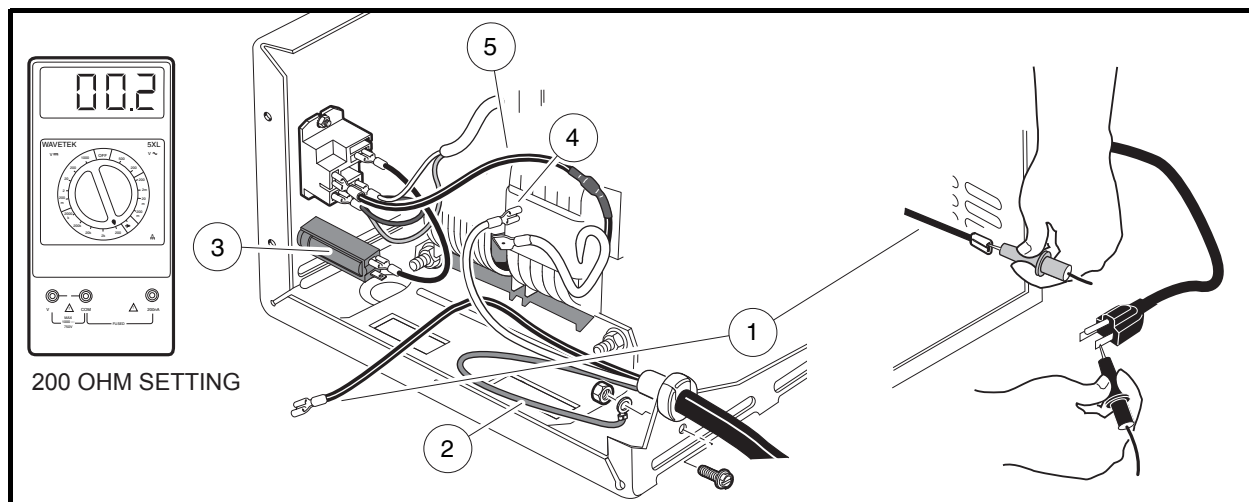

Figure 5-17 AC Cord and Plug Continuity Test
3. Disconnect the green wire (2) from charger case and position it so it does not touch any metal part of the charger (**Figure 5-17, Page 5-20**).
4. Disconnect the black wire (1) of AC cord from charger AC circuit breaker (3).
5. Carefully cut the heatshrink that insulates the AC cord white wire (4) where it connects to the tan primary coil wire.
6. Disconnect the AC cord white wire (4) from the primary coil tan wire.
7. Using a multimeter set for 200 ohms, place the red (+) probe on the terminal at the end of the black wire (1). Test for continuity on each of the flat blades and then on the round pin of the AC plug. The tester should indicate continuity on one flat blade only. If any other reading is obtained, the AC cord and plug must be replaced.
8. Place the red (+) probe on the end of the green wire (2) and with the black probe check for continuity on both flat blades and on the round pin of the AC plug (**Figure 5-17, Page 5-20**). The tester should indicate continuity on only the round pin. If any other reading is obtained, the AC cord and plug must be replaced.
9. Place the red (+) probe on the white wire (4) and check for continuity on both flat blades and on the ground pin of the AC plug. The tester should indicate continuity on only one flat blade. If any other reading is obtained, the AC cord and plug must be replaced.
3. Carefully cut the heatshrink that insulates the AC cord white wire (4) where it connects to the tan primary coil wire (**Figure 5-17, Page 5-20**).